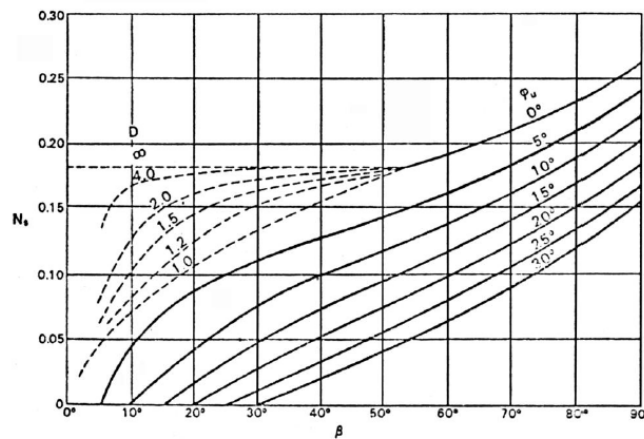

Figure Q2-2 Taylor's Chart
- b) Estimate the factor of safety against failure for the above slope using the Taylor's stability chart shown in **Figure. Q2-2** assuming bedrock is at depth of 2.0m beneath the toe of the slope.